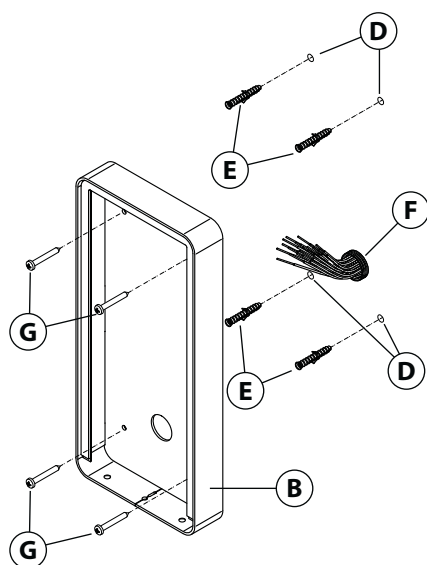

Fig. 3
3. Drill the 4 fixing holes (D), insert the wall plugs (E) and feed the cables (F) through the surface box, fix surface box to the wall using the screws (G) (Fig. 3);